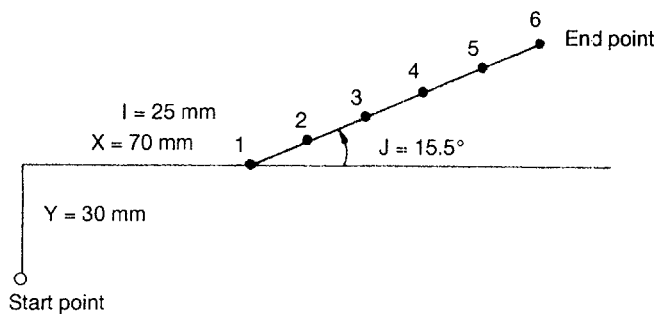

Fig. 4.15 Line-at-angle Command (G72)
(4) Supplements to the Hole Machining Pattern Cycle Function
- To execute a hole machining cycle using G70, G71, or G72, a canned cycle (G73, G74, G76, G77, G81 - G89) should be specified with “L = 0” in the preceding block as shown in the Example of Programming of Fig. 4.15. By the designation of “L = 0”, the hole machining position data are saved without executing the canned cycle.